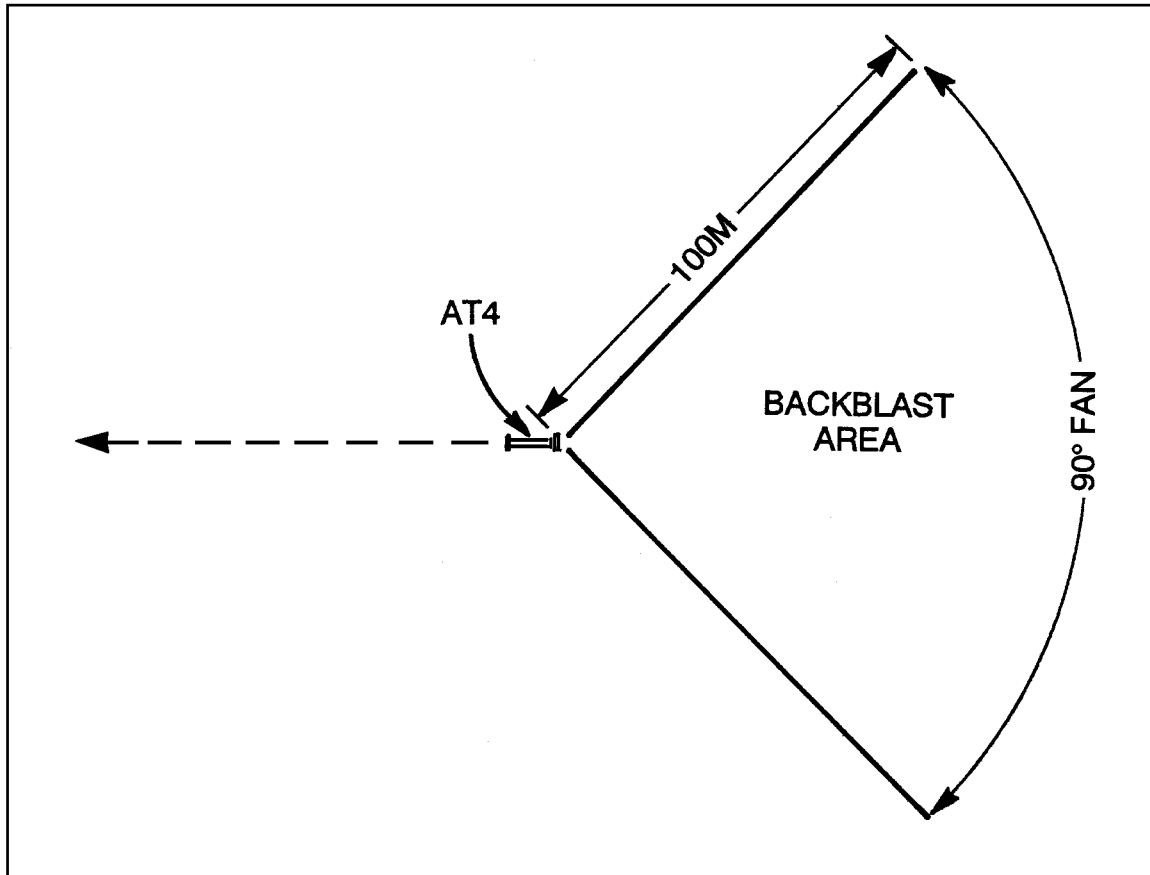

Figure A-2. M136 AT4 backblast area.
(2) **M136 AT4.** Because the AT4 has a closed chamber, it has a slight recoil. When the weapon is fired, pressure builds up in the chamber and ruptures the baseplate. Once the baseplate ruptures, gasses exit from the back of the weapon, forming the backblast. The total backblast area extends 100 meters to the rear of the launcher in a 90-degree fan (Figure A-2, page A-2). During training, the *entire* backblast area should be marked off limits and kept clear of personnel and equipment. In combat, personnel may remain to the rear of the